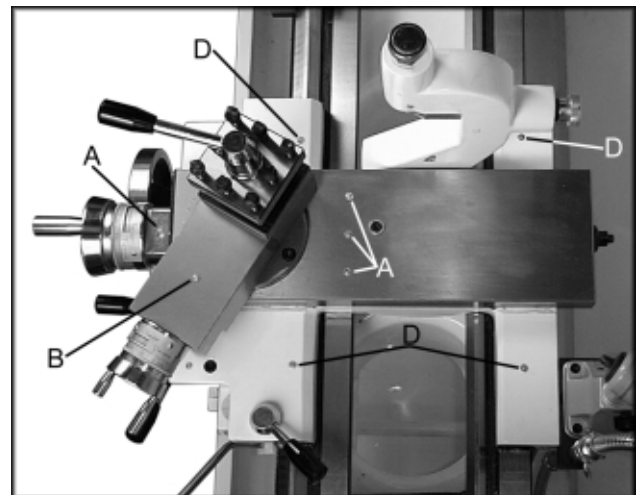

Fig. 8
6. **Cross Slide** - lubricate four ball oilers (A, Fig. 8) with Mobil DTE® Oil Heavy Medium once daily.
7. **Compound Rest** - lubricate one ball oiler (B, Fig. 8) with Mobil DTE® Oil Heavy Medium once daily.
8. **Carriage** - lubricate four ball oilers (D, Fig. 8) with Mobil DTE® Oil Heavy Medium once daily.